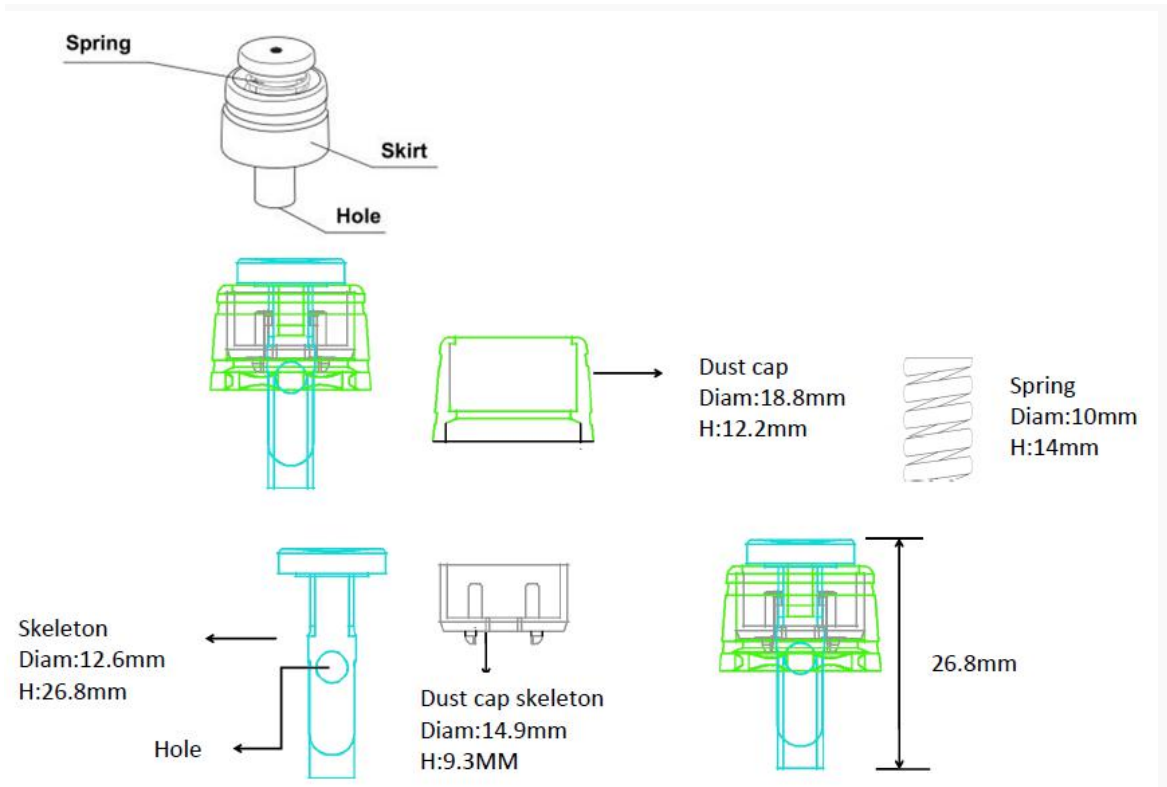

Figure 1
- 2) Insert the suction valve into the suction cylinder of an endoscope (see Figure 1 above).